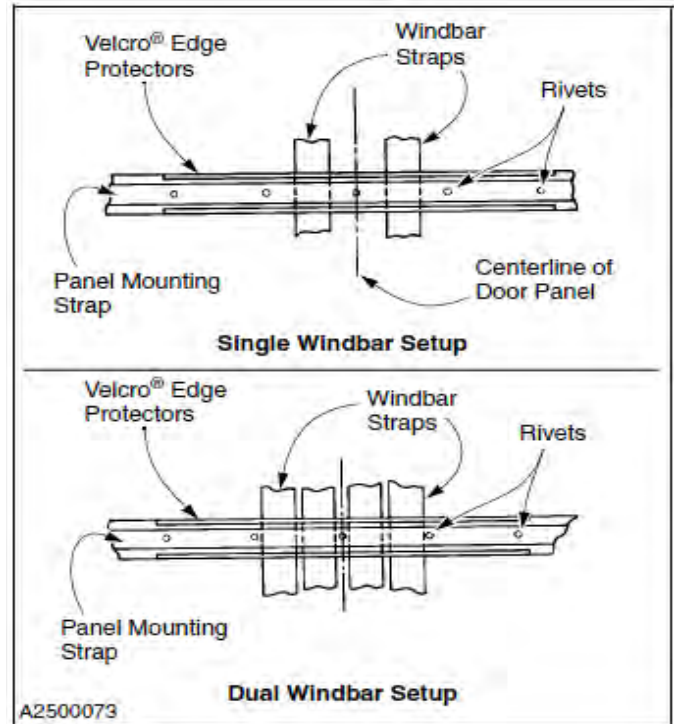

Figure 65
- Remove the rivets securing the panel mounting strap to the fabric drum — only remove the rivets from within the area of the mounting strap that is directly over, and adjacent to, the windbar straps. (See Figure 65)